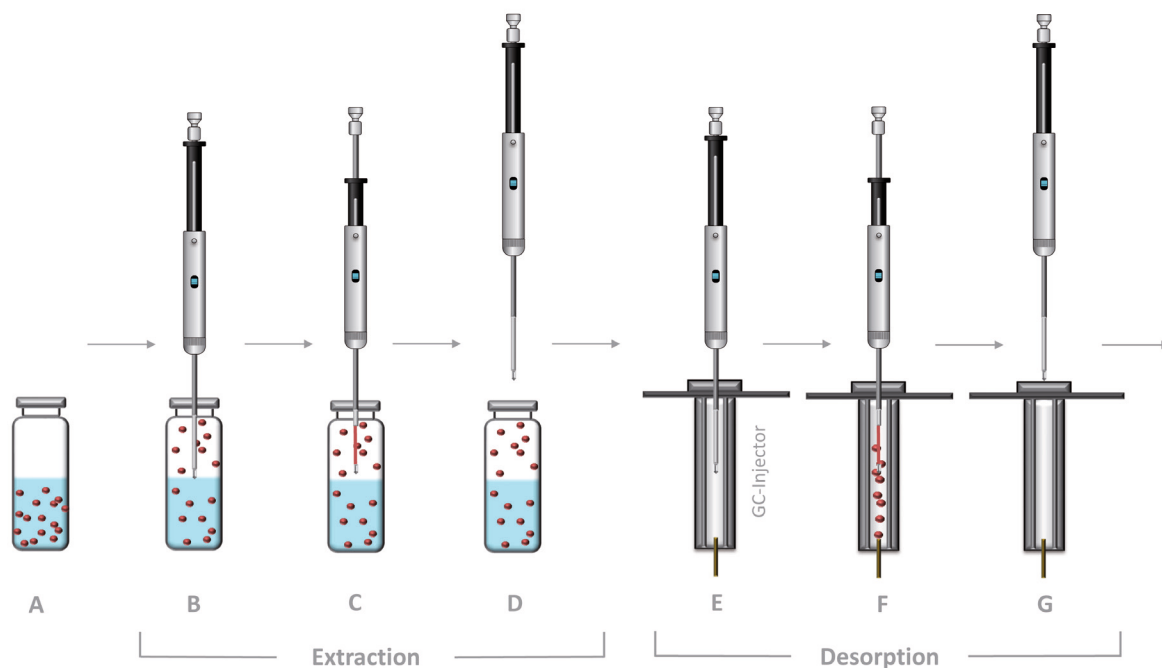

Fig. 1: Diagrammatic illustration of extraction and desorption using *PAL SPME Arrow*
To extract the analyte, the appropriate fibre is placed into a closed sample container. The fibre is extended from the hollow needle to enable the analyte to absorb onto the fibre (cf. Figure 1, A-C). Various parameters may impact the speed of this process. Temperature, stirring speed, duration time of the fibre in the sample container, density of the stationary phase, pH value and ionic strength of the sample solution, as well as the headspace size above the sample solution/sample volume should be kept constant to achieve reproducible results. The analytes are extracted and reconcentrated onto the fibre until a partition equilibrium is achieved between sample, headspace, and fibre. Subsequently the fibre is retracted into the protective hollow needle and removed from the sample container (cf. Figure 1, D).
SPME applications are possible using gas chromatography (GC), high performance liquid chromatography (HPLC), and capillary electrophoresis (CE). The differences vary according to the desorption process. Volatile compounds can be thermally re-desorbed from the fibre in the GC-injector. Subsequently the vaporised and solvent-free sample is transferred to the column via carrier gas. After the fibre has been retracted into the hollow needle and been removed from the injector, the fibre can be used for the next extraction (cf. Figure 1, E-G).